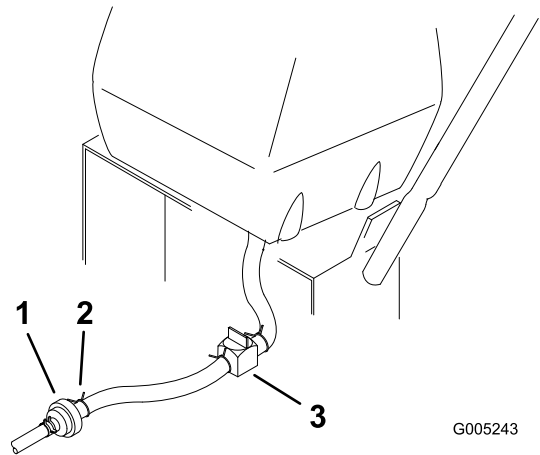

Figure 31
3. Close the fuel-shutoff valve at the fuel tank (Figure 31).
4. Squeeze the ends of the hose clamp and slide it up the fuel line away from the fuel filter (Figure 31).
5. Pull the fuel line off the fuel filter (Figure 31).
7. Open the fuel-shutoff valve at the fuel tank (Figure 31).